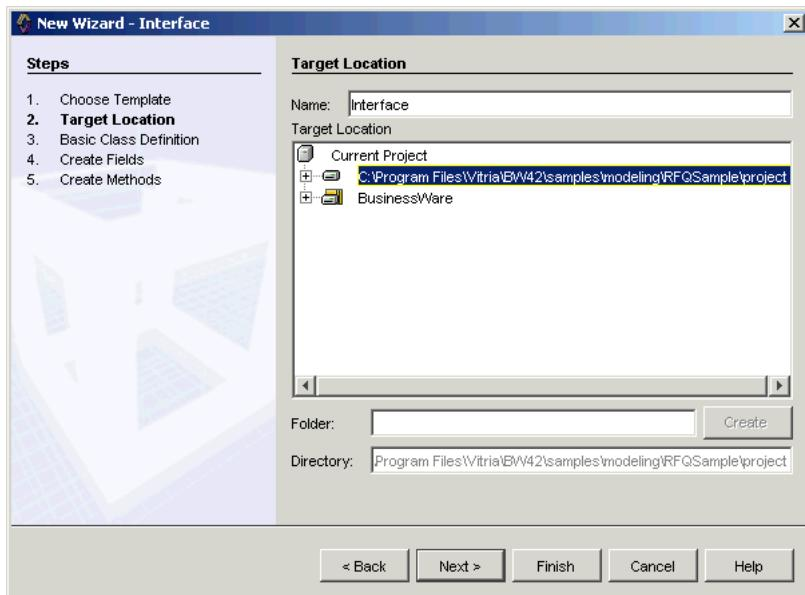

Figure 6-10 Using the New Wizard to Create a New Interface Definition
2. Right-click on the com folder and choose **New > All Templates...** and in the New Wizard, select **Types > Interface**. This brings up the wizard (shown in Figure 6-10) to guide you through defining a Java interface.